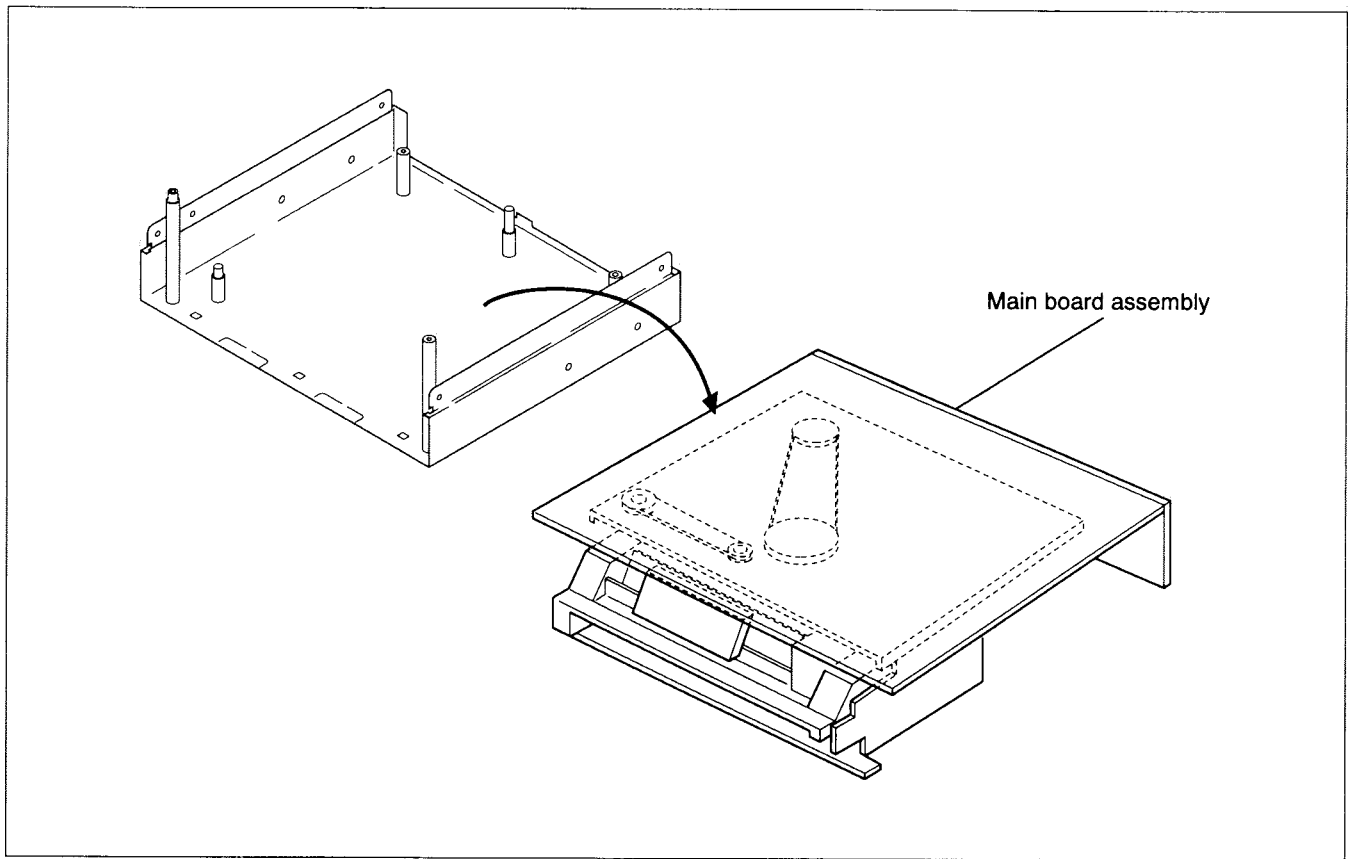

Fig. 1-5-3
- (5) Turn over the Mechanism assembly and Main board assembly.
- (6) Connect the flat wire of the Front panel again.
- (7) Carry out checks & repairs as necessary as shown in Fig.1-5-3.